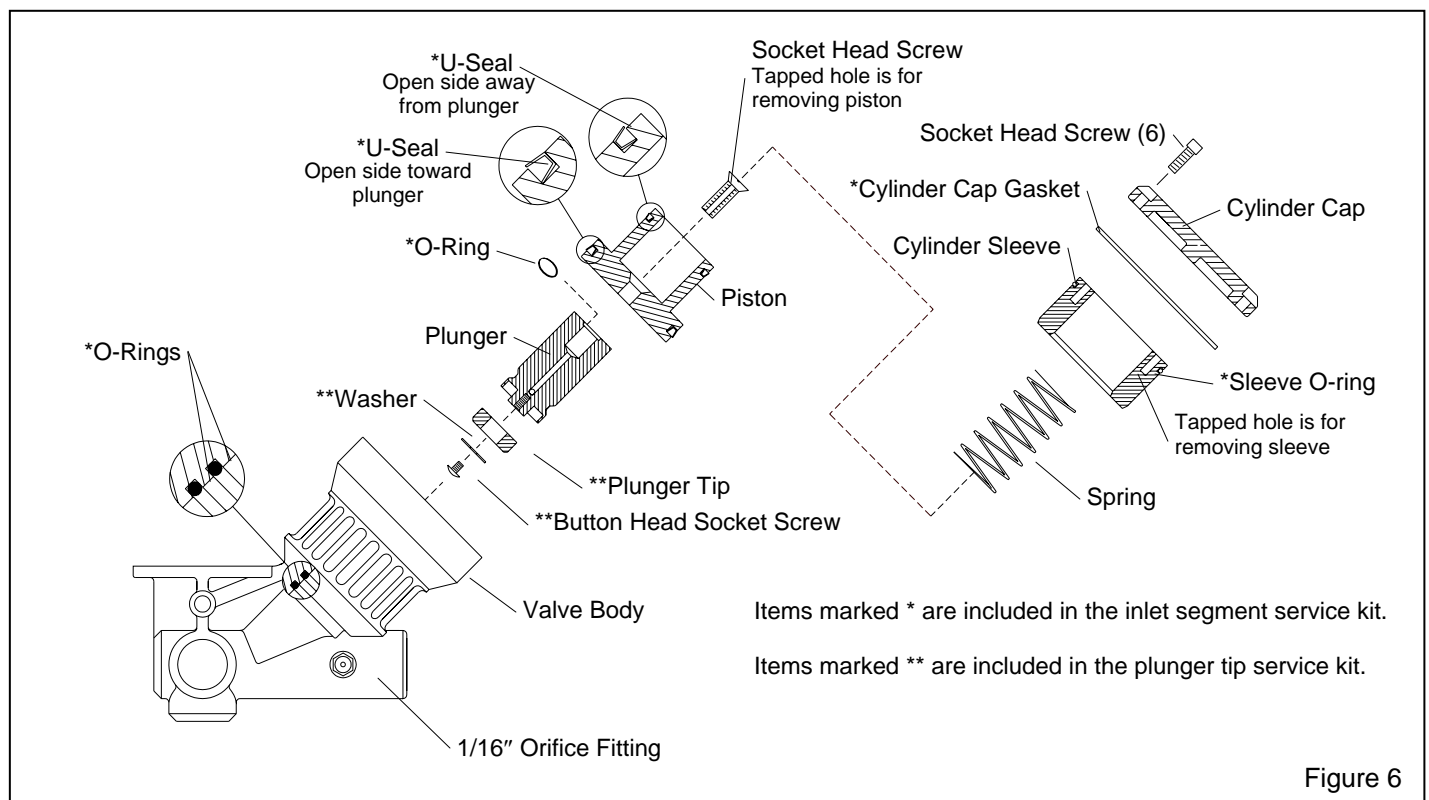

Figure 6
6.3 Millennium Valve Inlet Segment, Ref. Figure 6.
6.3.10 Place the U-seals into the grooves on the piston, the open side of the large seal faces the plunger, and the open side of the small one faces away from the plunger, as shown in Figure 6.
6.3.15 If fittings on the body were removed, make sure the 1/16" orifice fitting is threaded into the port as shown in Figure 6.